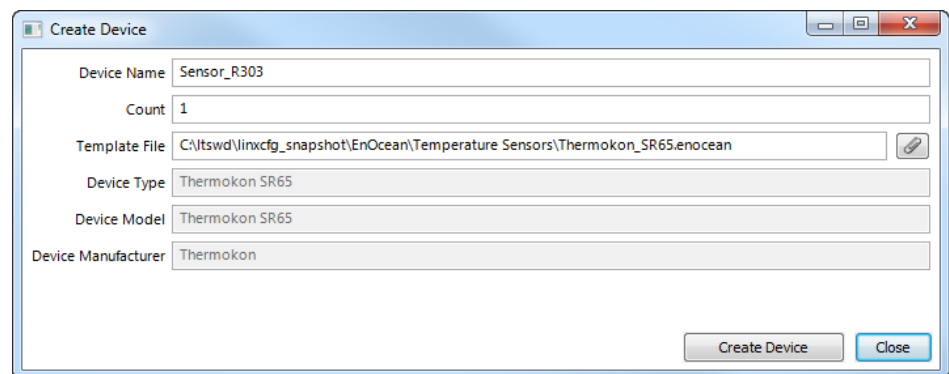

Figure 162: EnOcean device creation dialog
3. In the **Create Device** dialog enter a Device Name and a Count of devices to be created as shown in Figure 162.